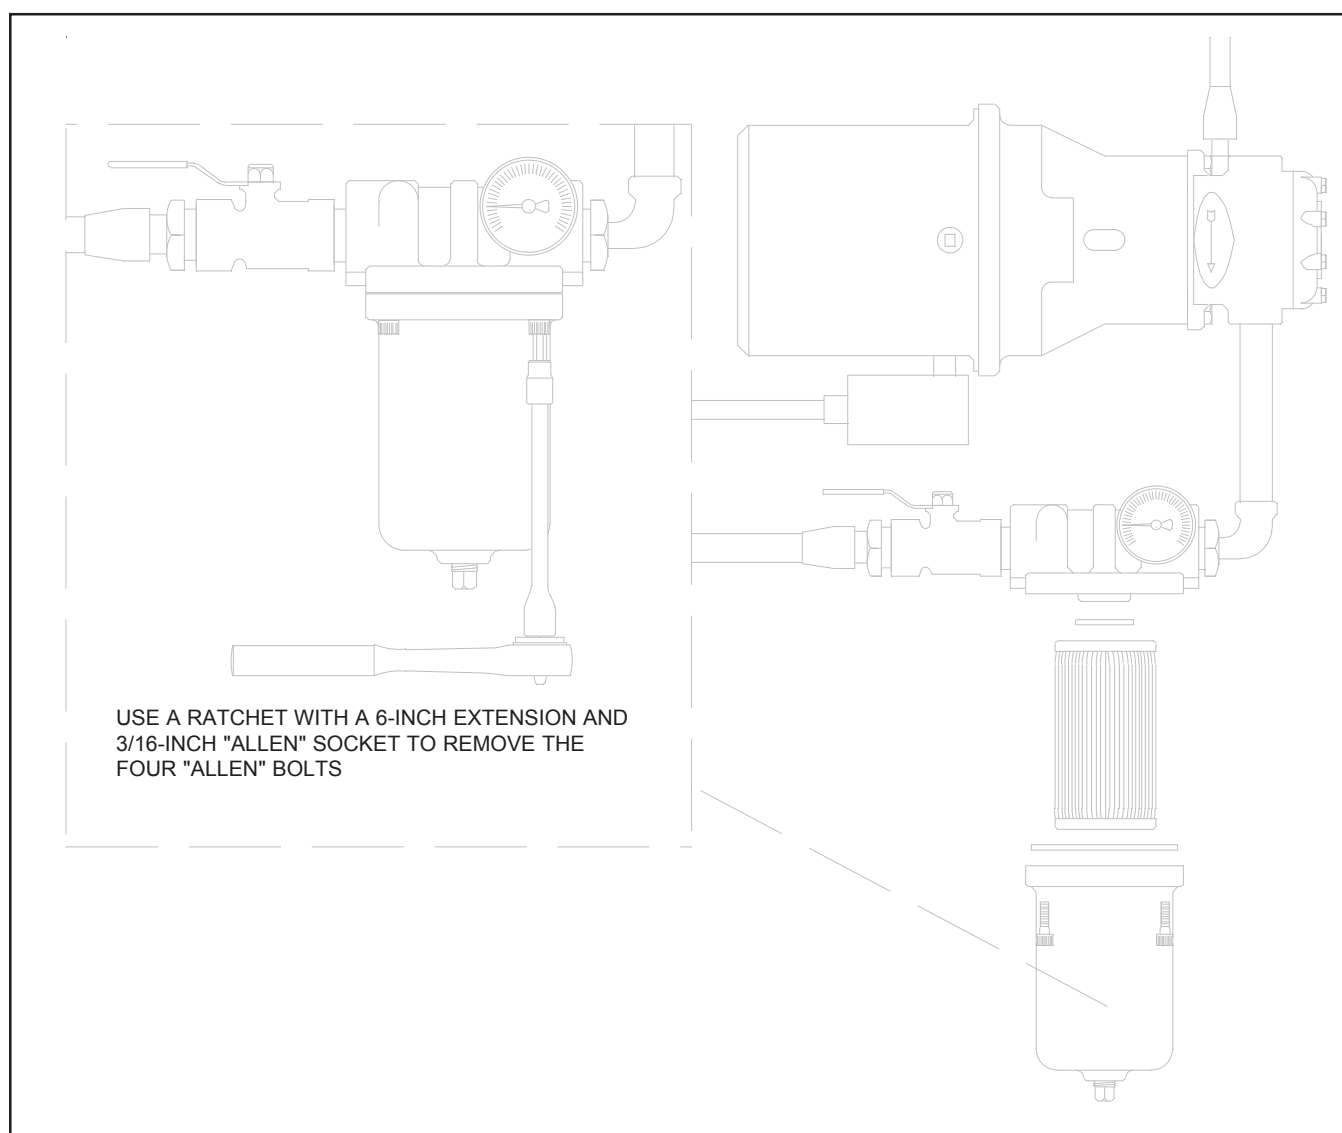

Figure 5A - Oil Canister Detail
1. Refer to Figure 5A.
2. Remove the four (4) bolts holding the canister bowl in place, then remove the bowl.